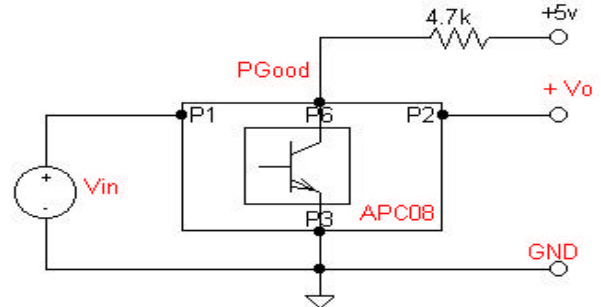

Figure 6. PGood setup.
7. See Figure 6 for PGood configuration
PG pin provides an output signal indicating the  $V_{out}$  is operational (TTL logic signal). It can sink current up to a max of 5mA and can have a maximum external pull-up voltage of 6V. Please see recommended setup shown on Figure 6.